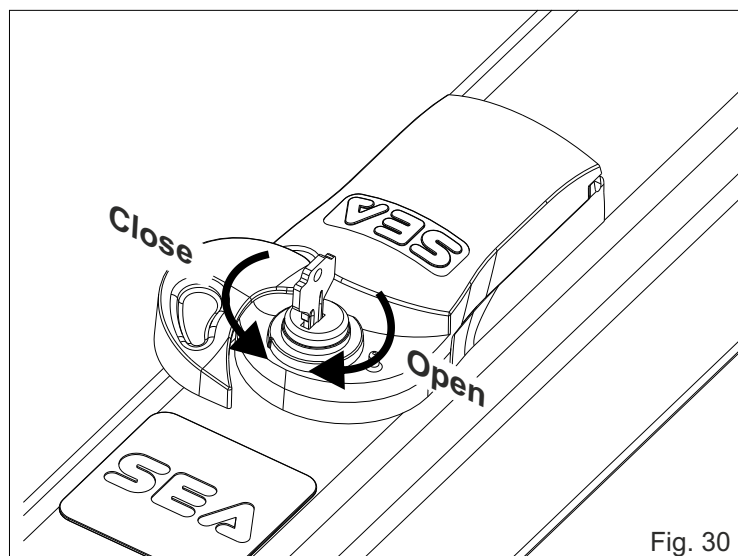
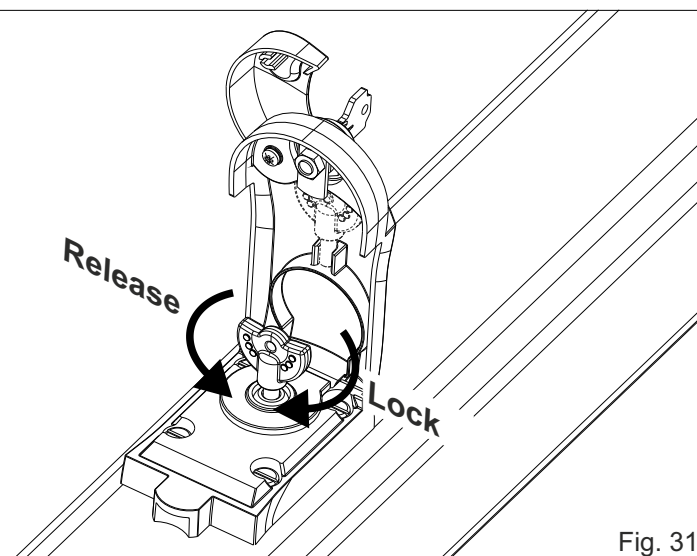

Fig. 30
Fig. 31
- 1) Release the unit (as in Fig. 30)
open the lock cover, insert the key, turn it about 90° clockwise (Fig. 30) and open the lid. Take the red key located under the lid, insert it and turn it about 90° anti-clockwise (Fig. 31)
turn the red key clockwise until it stops (Fig. 31), remove it, put it under the lid and close the lid again.